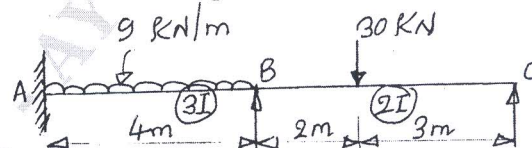

Fig Q8
- 8 Analyse the continuous beam shown in Fig Q8 by direct stiffness method. Also draw bending moment and shear force Diagrams. (20 Marks)